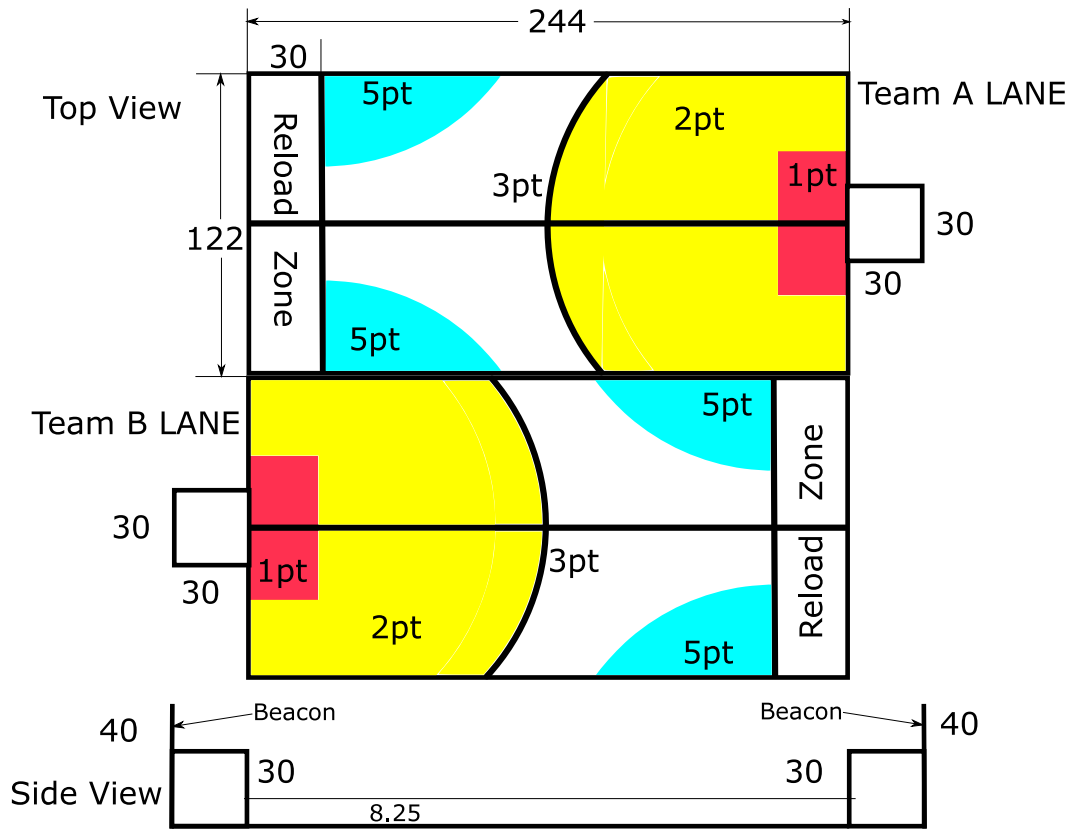

Figure 1: Overhead and side views of the Arcade. All dimensions in cm and approximate. Refer to the actual field for exact dimensions.
- The Arcade is an approximately 244×244 cm area with exterior walls 8.25 cm tall. A top view is shown in Figure 1.
- The Arcade is divided into two equal Linear Arenas Nourishing Excitement (LANEs) to be used by Team A and Team B as shown in Figure 1.
- Balls delivered into the basket while the KOB is in the different colored regions earn differing points, as indicated in Figure 1.
reload regions on the Arcade (refer to Fig. 1) and with an orientation designated by a member of the teaching staff.